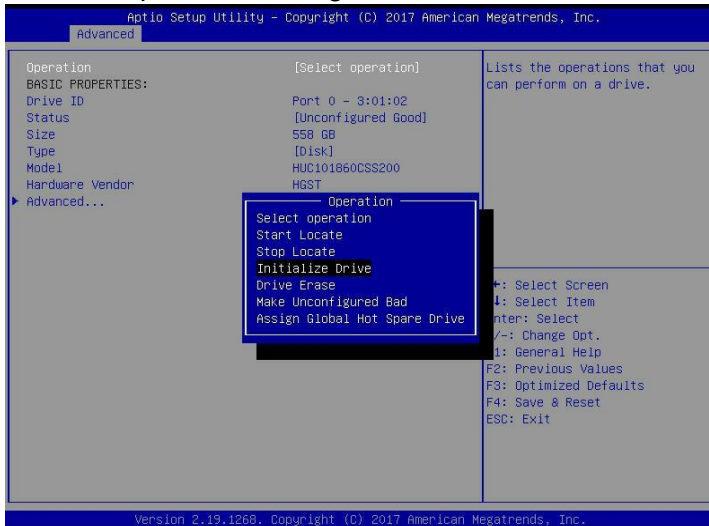

Figure 6-73
c) Enter the interface of Figure 6-73, select Operation, press Enter, and then select Initialize Drive in the pop-up dialog box, and press Enter.
✧ Figure 6-73 Operation management interface